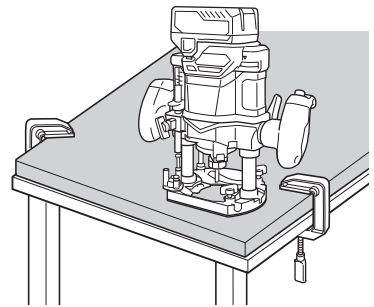

Fig. 11
2. Secure the material with a vice to ensure that both hands are free to hold and operate the power tool. (**Fig. 11**)